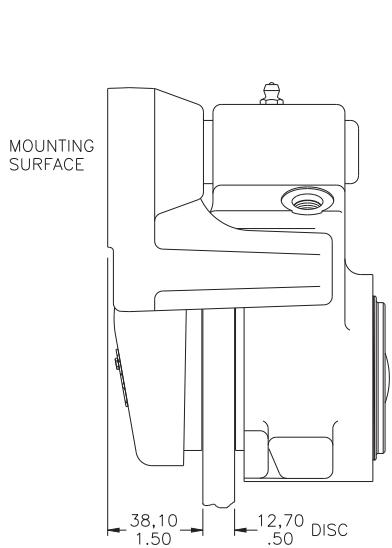

FIGURE 1
1. Figures 1 and 2 on page 2 illustrate the two methods of mounting this series of brakes. The mounting surface to disc face dimension should be closely held as this provides for the required caliper movement. Use shims as needed to obtain the proper distance.
Dimensions shown in Figures 1 and 2 are typical for all models. Mounting surface to disc face dimension is typical of rectangular and triangular brackets. Mounting bolts are not included.